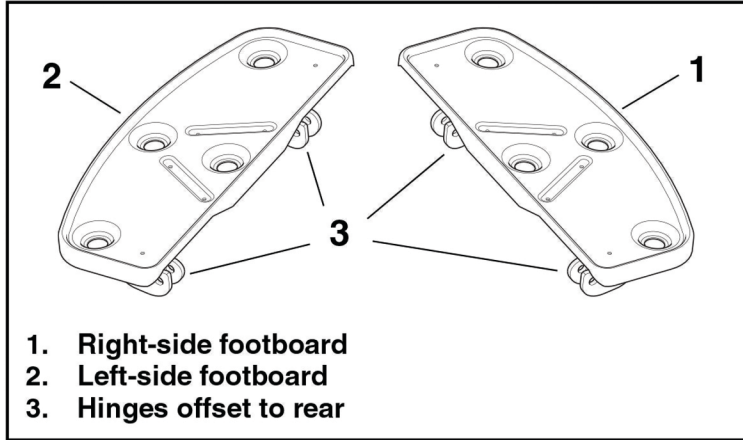

Figure 1. Forward Mount Operator Footboards
4. See Figure 1. Select the correct footboard from the kit. Place the footboard into position between the brackets, and install the pivot bolts from the outboard sides of the hinges.